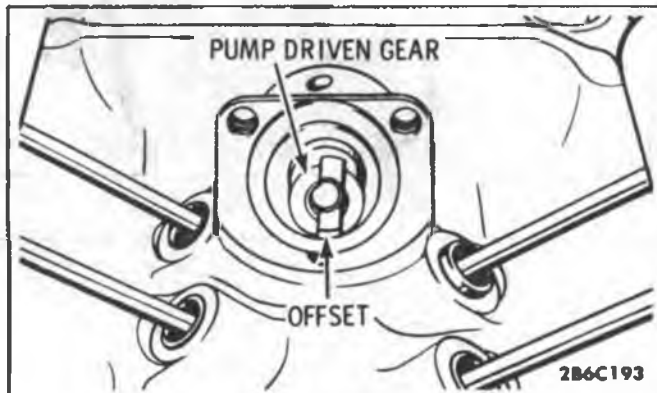

Fig. 2-23 Pump Offset
1. Position engine No. 1 cylinder to firing position by aligning the mark on the balancer with zero mark on the indicator located on the front of the engine. The index of the pump driven gear is offset to the right when number one is at T.D.C. (Fig. 2-23).